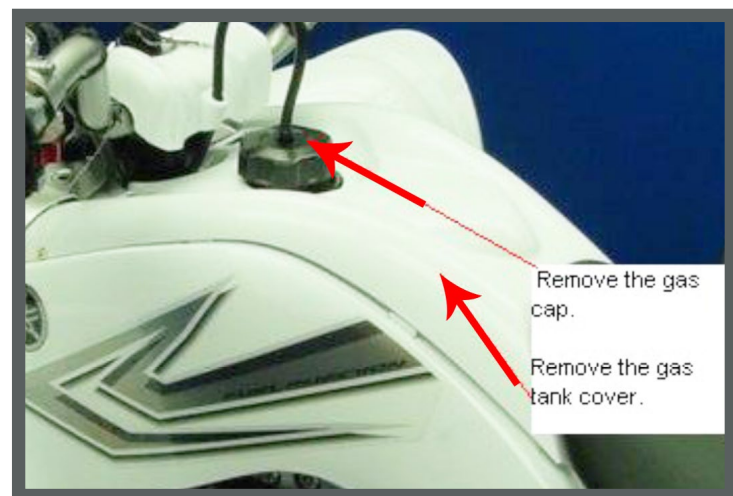

Figure 4
5. Remove the **Fuel Cap and Plastic Fuel Tank Cover**. (See Fig 4)